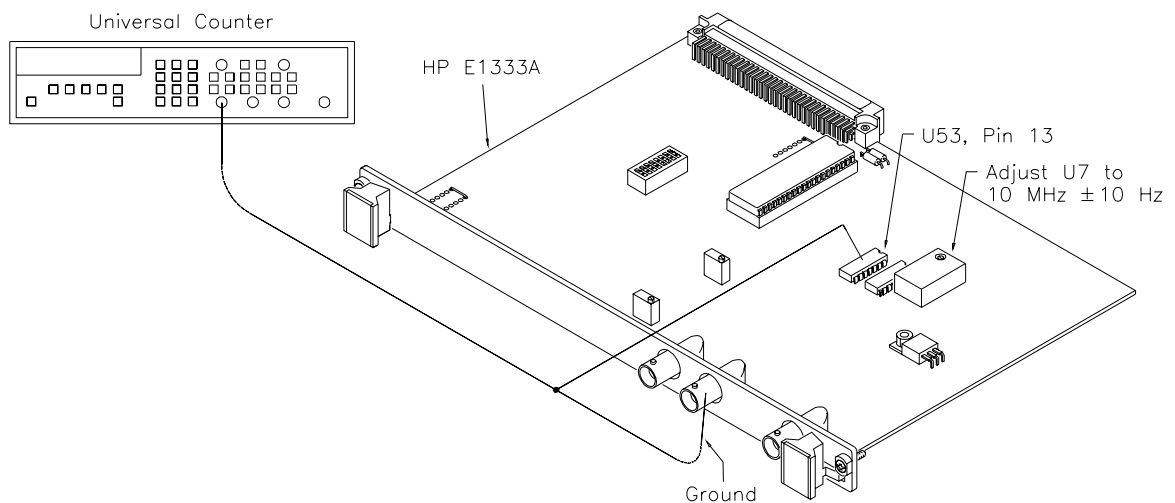

Figure 5-1. Reference Oscillator Adjustments
1. Connect Channel A of the HP 5334B Universal Counter to the output of the 10 MHz reference oscillator (U53 pin 13) (see Figure 5-1).